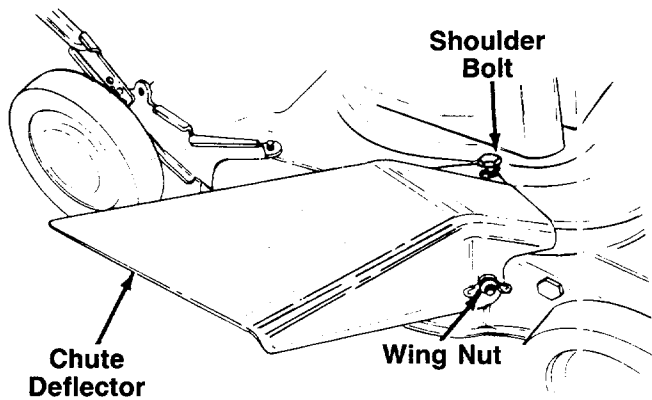
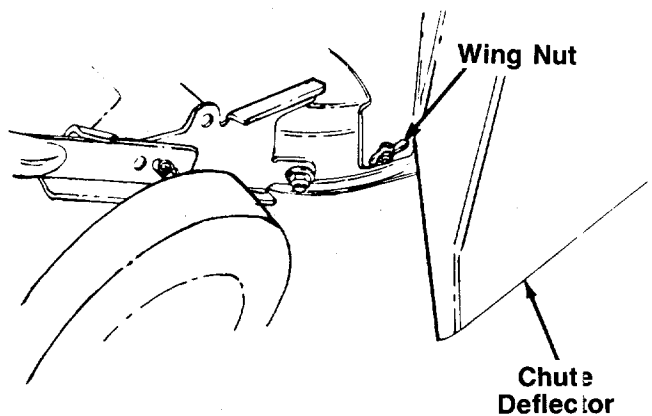

FIGURE 16.
FIGURE 17.
2. Attach the side chute deflector by first placing it over the rear bolt in the side of the deck. Then slide the notch in the top of the deflector around the shoulder bolt on top of the deck. Slide the notch in the side of the deflector around the front bolt in the side of the deck. See figure 16.
3. Secure the front of the chute deflector to the bolt on the side of the deck with one wing nut. See figure 16. Secure the back of the chute deflector in the same manner. See figure 17.